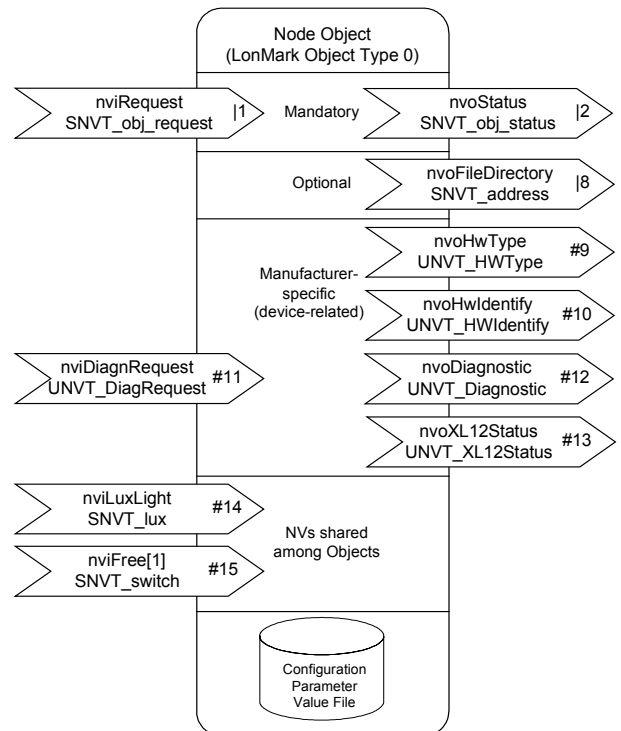

Fig. 3. Node Object
- one node object (see Fig. 3)